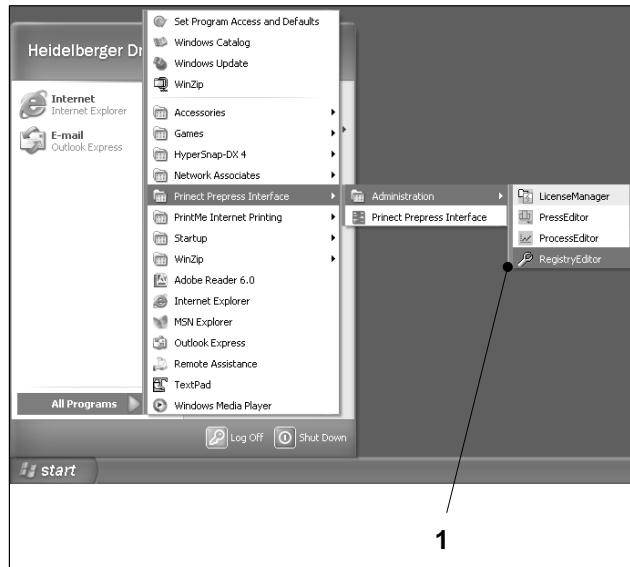

Fig. 2 Opening RegistryEditor
1. Open RegistryEditor as shown in Fig. 2. The RegistryEditor dialog box opens (Fig. 3).